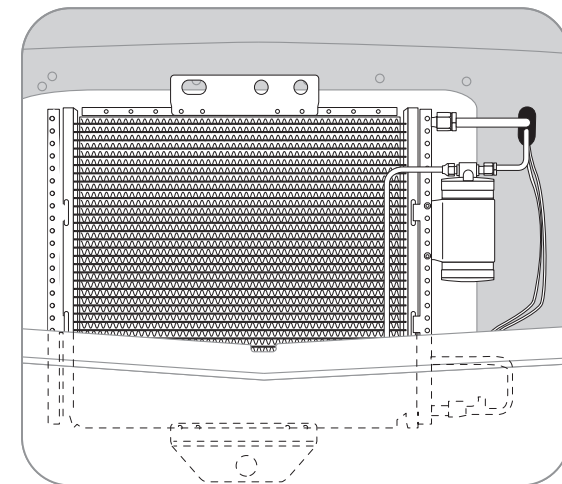

FIGURE 40
**STEP SEVEN:** Place the condenser/drier unit into place, locating it so that the holes in the condenser brackets align with the holes in the core support used to attach the hood latch (it will rest on the lower radiator core brace, see figure 40).